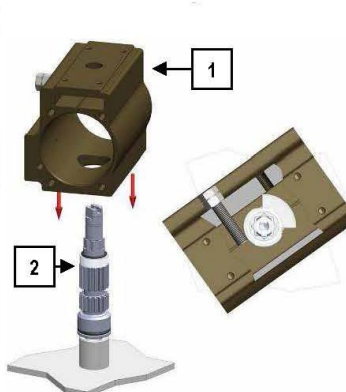

Fig.15
4. Lay the cylinder (1) down on the pinion (2) holding it with the NAMUR surface rotated by approx. 50° to the upper slot of the pinion, see fig. 15 ;